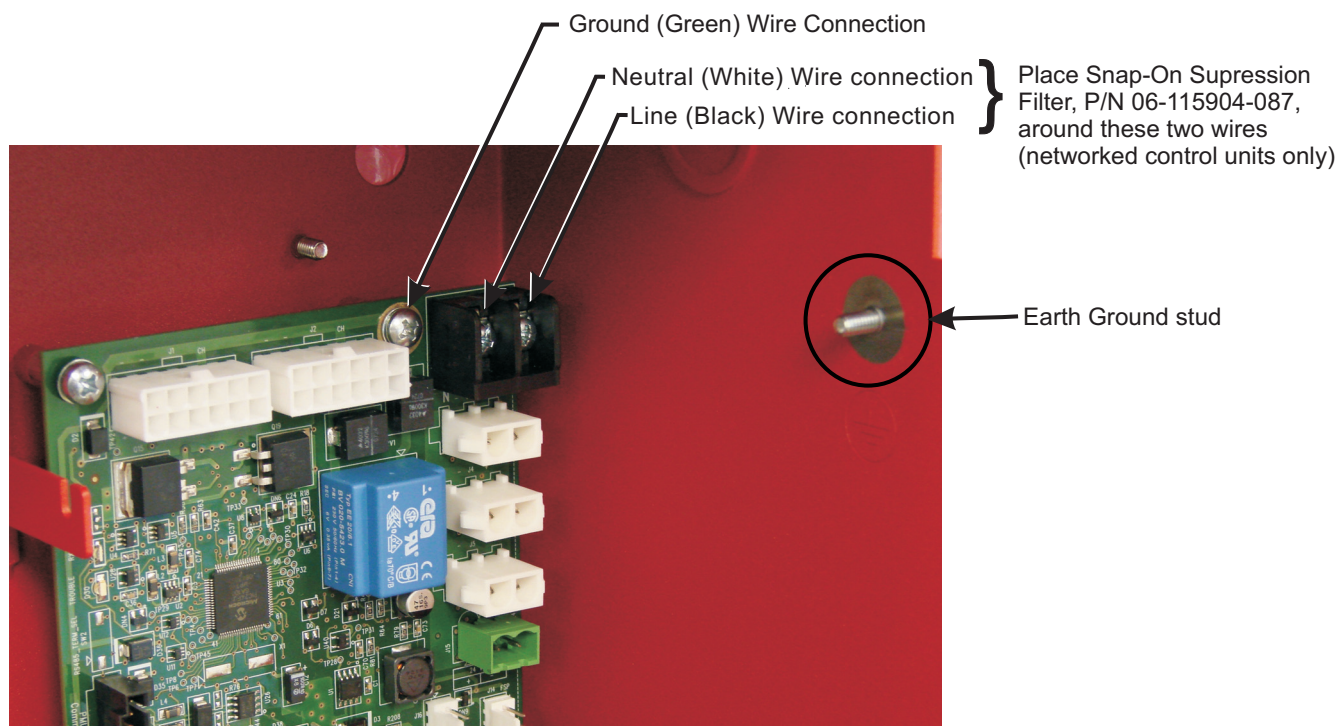

Figure 2-11. AC Connections to PMU Board
7. Position the 5-in. ground wire assembly over the right topmost screw hole (located beside the AC power input connector). Refer to Figure 2-11 for location of screw hole. Insert the 5/8-in. standoff and mounting screw; hand-tighten.
1. Run AC-input wiring to the right side of the enclosure and bring it through one of the top knockouts on the right. Refer to Figure 2-11 for AC power connection locations.